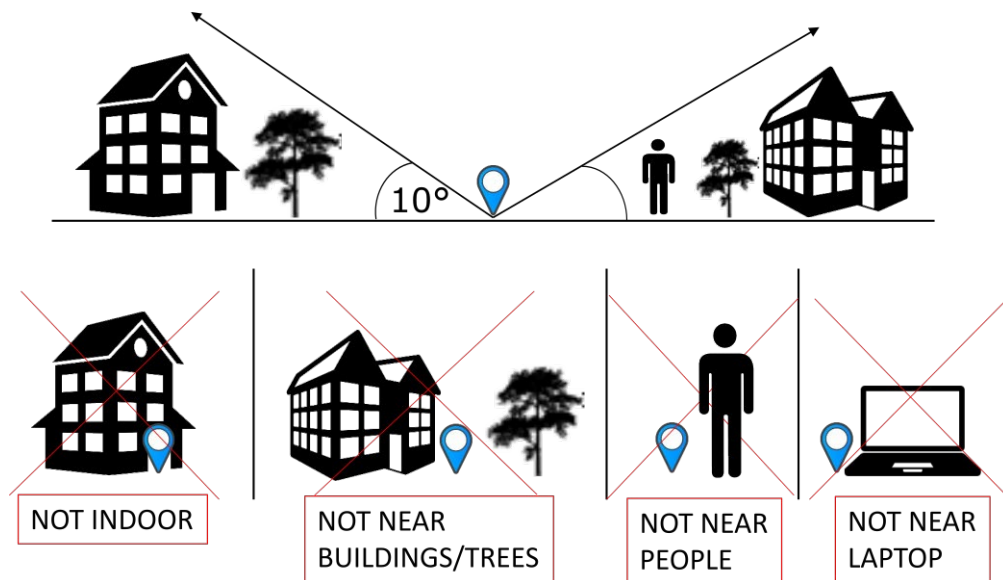

Figure 33: Reference Station placement guideline
- Please connect the GNSS antenna with the marked SMA connector to the Reference Station. The GNSS antenna must stay outside with open-sky environment (see Figure 33).
Recommendation: The GNSS antenna should be fixed mounted on position outside with best possible satellite visibility (see Figure 33). A recommended place would be the roof of a high building or similar places. The RTK correction data of the Reference Station are highly accurate for rovers within 15 km distance from rover (MS-RTK module) to Reference Station. A common way is to fix the Reference Station on a location where the user can calibrate the position once a time and don't change the position again.